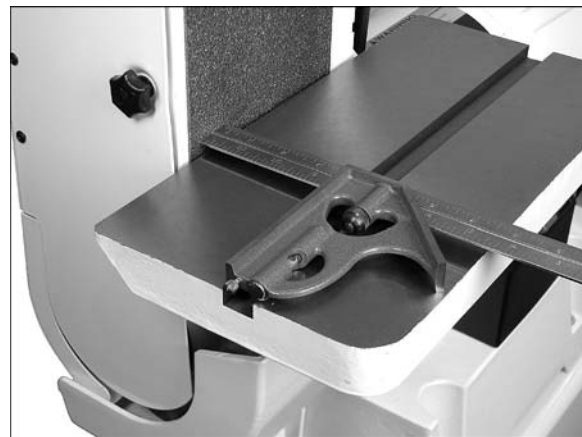

Figure 20
4. Place a combination square in the miter gauge slot and check the distance from the slot to the face of the platen. See Figure 20. Slide the square along the slot to the other side of the platen and check the distance. The distances should be equal to ensure that the miter gauge travels parallel to the belt.